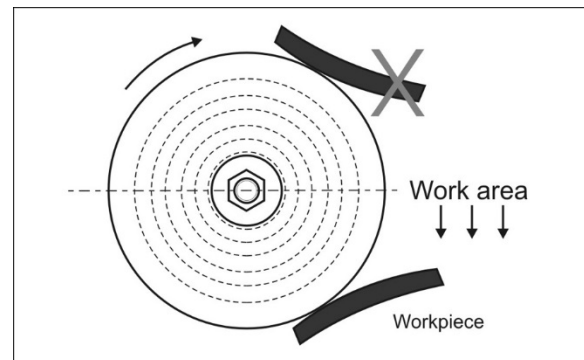

Figure 7-2
2. Grip workpiece firmly and press it against *underside* of wheel, that is, the area of wheel that is rotating *away* from the workpiece. See Figure 7-2.